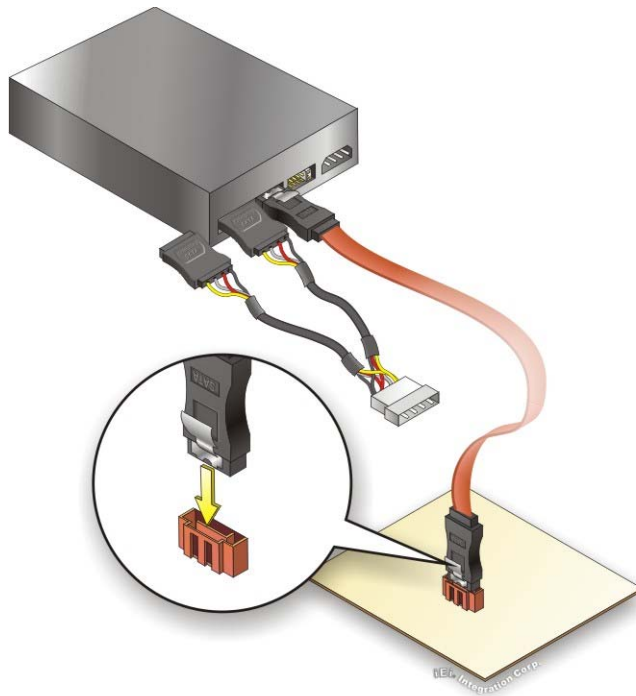

Figure 4-13: SATA Power Drive Connection
- Step 3:** Connect the cable to the SATA disk. Connect the connector on the other end of the cable to the connector at the back of the SATA drive. See **Figure 4-13**.
- Step 4:** Connect the SATA power cable (optional). Connect the SATA power connector to the back of the SATA drive. See **Figure 4-13**.